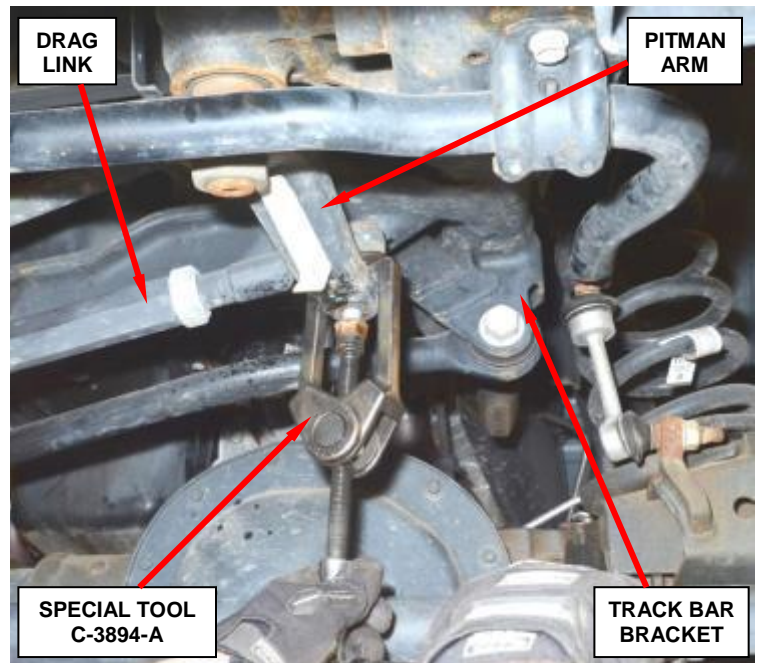

Figure 38 – Disconnect Drag Link from Pitman Arm
9. Using special tool C-3894-A, disconnect the drag link from the pitman arm (Figure 38).